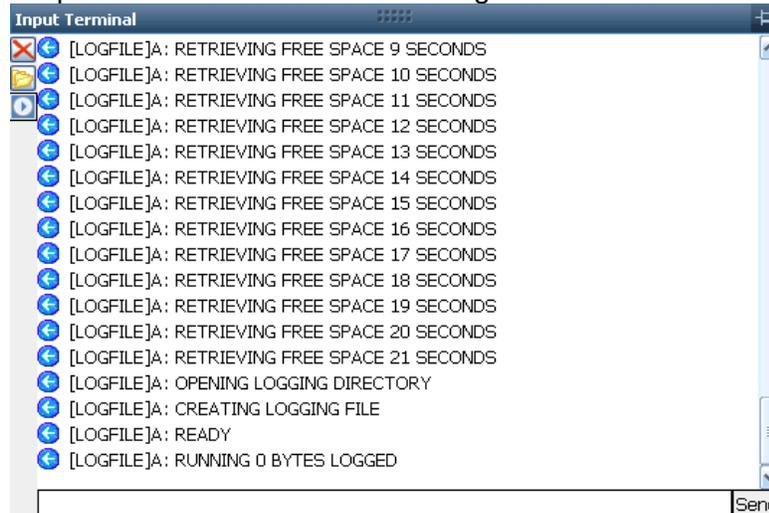

Figure 7: Input Terminal – Creating Logging File
- In the *Input Terminal* window, type the command `[LOGFILE]A:,start`, where “A:” is the internal memory. The system will retrieve the available free space for logging data and issue a READY message (see Figure 7). (Refer to the `[LOGFILE]` command in this manual for detailed instructions, including “Essential Notes”).